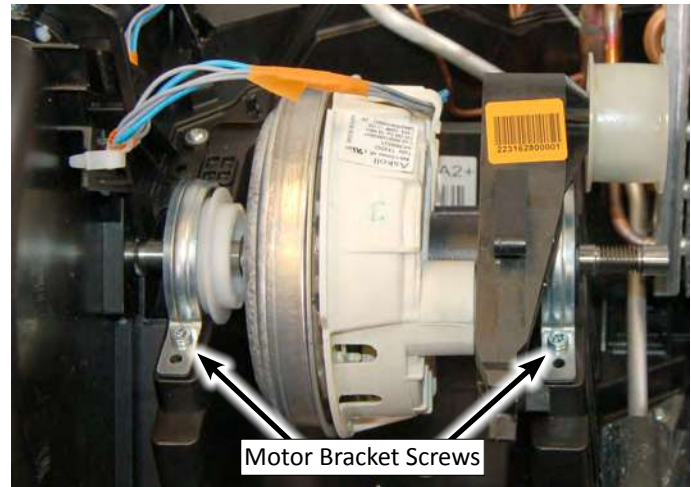

Figure 2
8. Use a T20 Torx driver to remove the two screws securing the motor brackets (see Figure 2). Remove brackets and set aside.